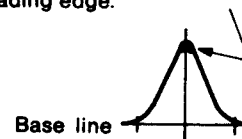

Fig.1
1. Feed in a weak signal to L104 from the genescope. Adjust T101 for maximum gain and the waveform indicated in Fig. 1. If the center of the waveform cannot be lined up on the maker, adjust the right/left balance.